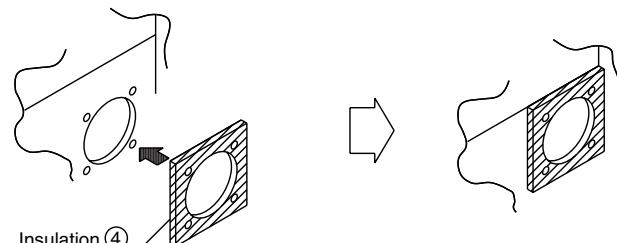

Fig. 2
2. Adhere the insulation④ for opening of unit to the opening. (Fig. 2)